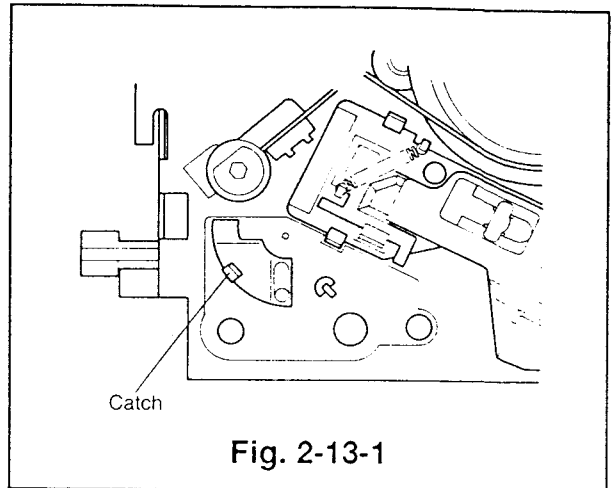

Fig. 2-13-1
- ① Remove the cassette housing. (Refer to Para. 2-1 for the removal method.)
- ② Remove the safety spring and the safety lever. (Refer to Para. 2-12 for the removal method.)
- ③ Unfasten the catch to remove the safety arm. (Refer to Fig. 2-13-1).